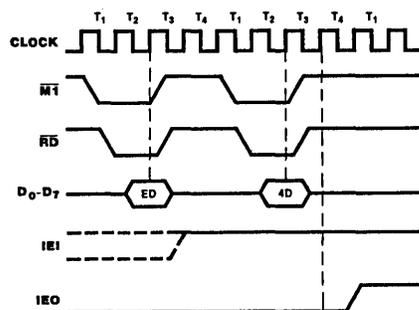

Figure 18. Return from Interrupt Cycle
**Return From Interrupt Cycle.** Figure 18 illustrates the return from interrupt cycle. Normally, the Z-80 CPU issues a RETI (Return From Interrupt) instruction at the end of an interrupt service routine. RETI is a 2-byte opcode (ED-4D) that resets the interrupt-under-service latch in the SIO to terminate the interrupt that has just been processed. This is accomplished by manipulating the daisy chain in the following way.